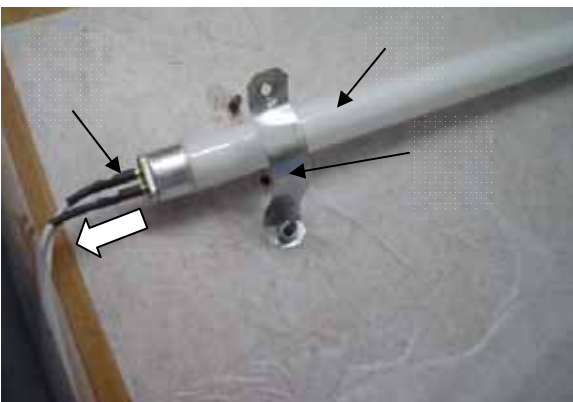

Fig11
- 2.According to the method in Fig.11, take off the white output wire from two ends of the light tube.